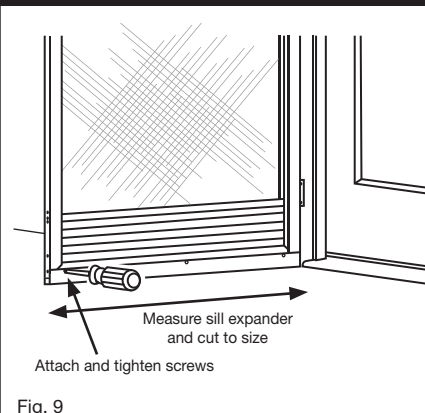

Fig. 9
Temporarily tape sill channel expander in place with masking tape. Mark and pre-drill (3) sill channel expander attachment holes as indicated on interior side using 1/8" drill bit. Secure with #8 x 3/8" screws provided (Fig. 9).